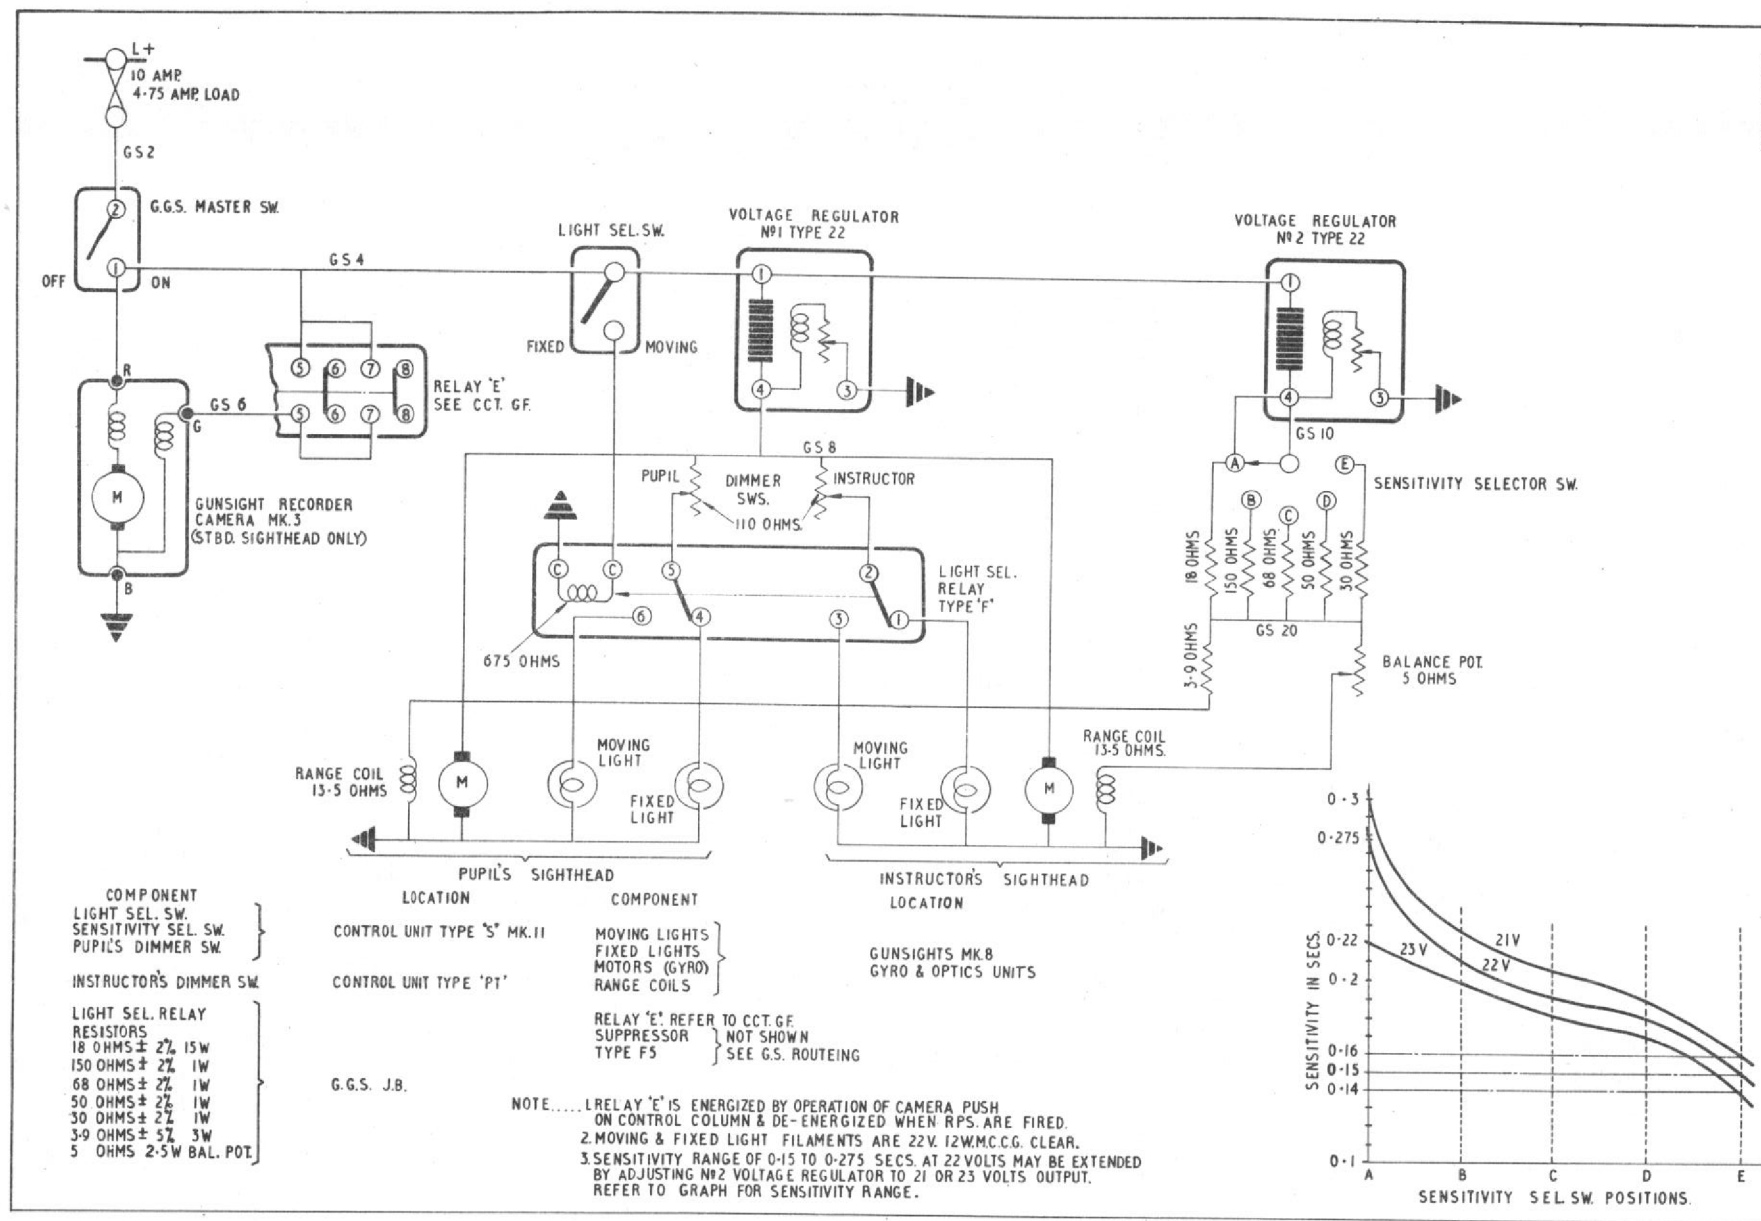

Fig.1 Power supply for gyro gun sight and camera recorder (theoretical)
9. Theoretical and routeing diagrams of the gun-sight and camera recorder installations are given in fig.1 and 2 and the theory and routeing diagrams of the electrical power supplies will be found in fig.1 and 3. For a full description of the gun-sights, control units and camera recorder, together with their operation, reference should be made to the Air Publications listed in Table 1.